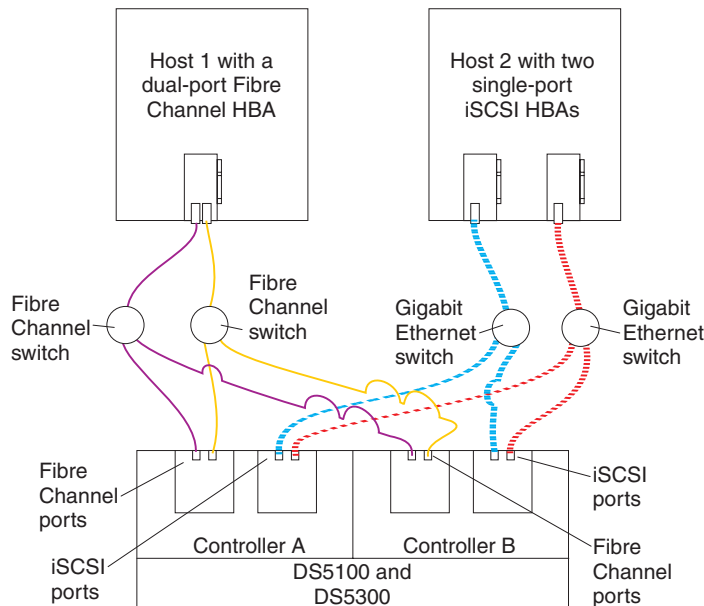

Figure 87. Example of a multiple-host, multiple-port, multiple-switch configuration
- Multiple-host, multiple-port, multiple-switch configuration, as shown in Figure 87 on page 122
Figure 87 on page 122 shows an example of a multiple-host, multiple-port, multiple-switch configuration.